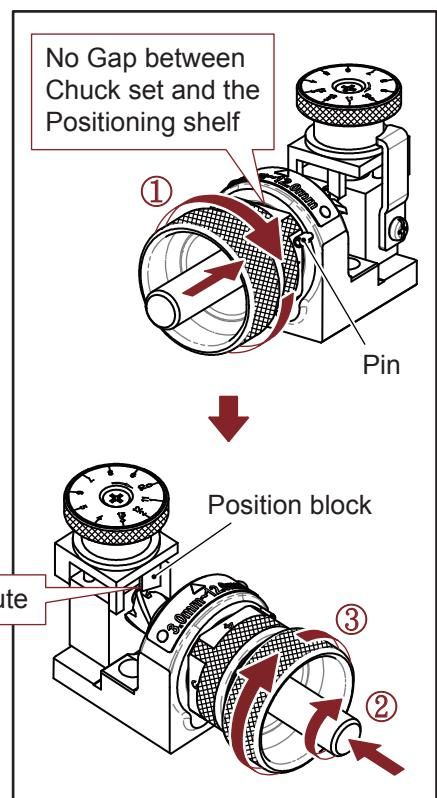

Fig. 6-3
- End mill Positioning (Fig. 6-3)